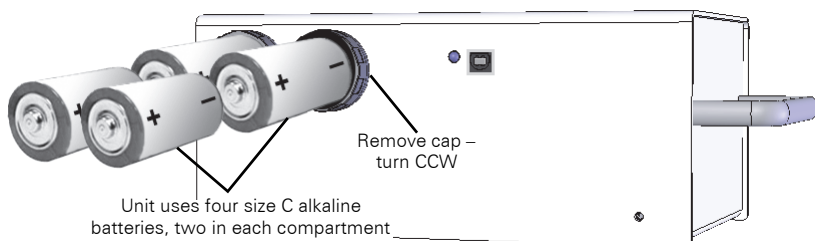

Figure 2. Inserting Batteries
The battery compartment is accessed from the right side panel of the Radon Sentinel (Figure 2). Replacement batteries can be purchased from any retail source.
- 2** Insert two size C alkaline batteries, so that the negative end of the battery goes into the compartment first (Figure 2).